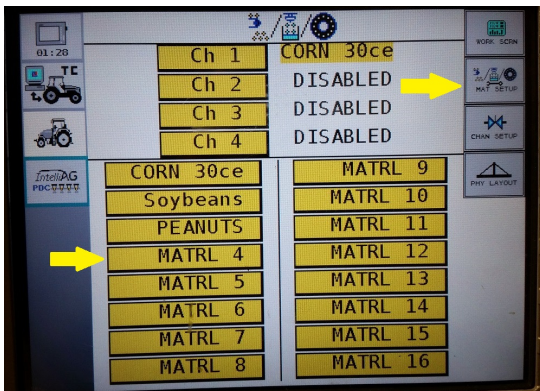

Figure 7
Step 3. Select **Material Setup** icon on side of VT or simply select material from the list shown in Figure 7.